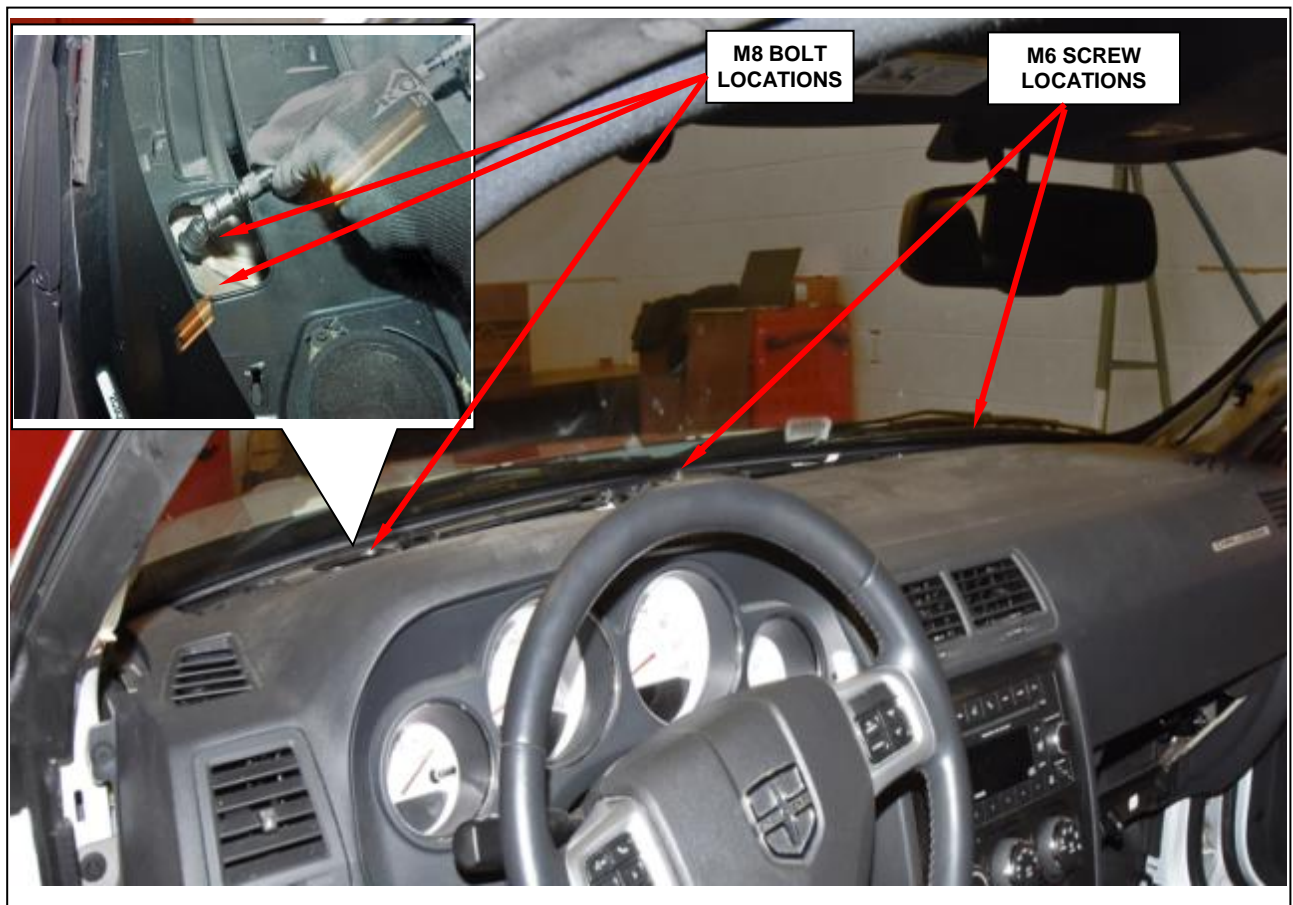

Figure 67 – Top Instrument Panel Fasteners
33. Remove the defroster grille to access the instrument panel top retaining bolts then remove and save the two M8 bolts and two M6 screws (Figure 67).